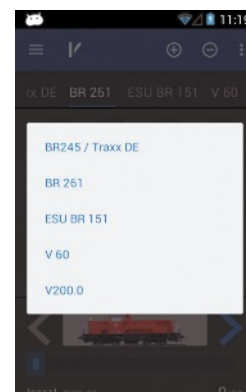

Figure 29
- Tap and hold the name of the current loco in the quick access list, and speed dial (shortcut) menu appears, figure 29.